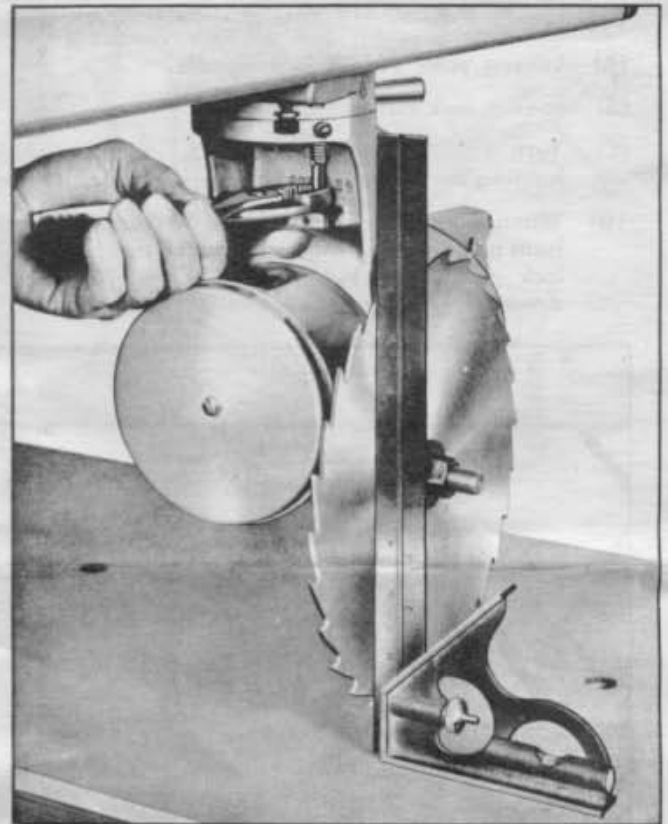

Fig. 22
An alternate method for adjusting for heeling is shown in fig. 20. Place the square against the fence and hold against the saw blade. Make sure the edge of square is not touching the tooth points. Adjust the screw as shown in fig. 19 until blade is flush with square. If this method is used the blade must be squared to the table top as shown in fig. 22.
1. Place combination square on table and against blade as shown in fig. 22.
3. Using a pair of pliers, turn knurled head in fig. 22, while holding motor against stop in a clockwise direction by use of the pistol grip handle. The knurled head can be turned in either direction to bring the blade square to table top.